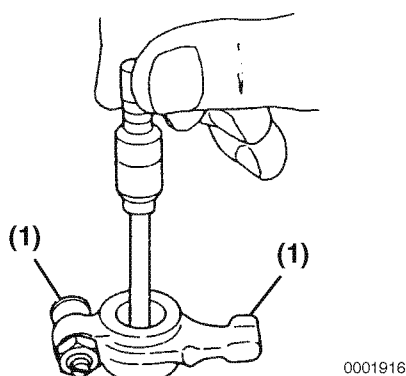

Figure 6-52
1. Use a telescoping gauge and micrometer to determine if the inside diameter of all the rocker arm support brackets and the rocker arms (**Figure 6-52**) are within the specified limits. See *Rocker Arm and Shaft* on page 6-7 for the service limit.
2. Inspect the contact areas (**Figure 6-52, (1)**) for excessive wear or damage.